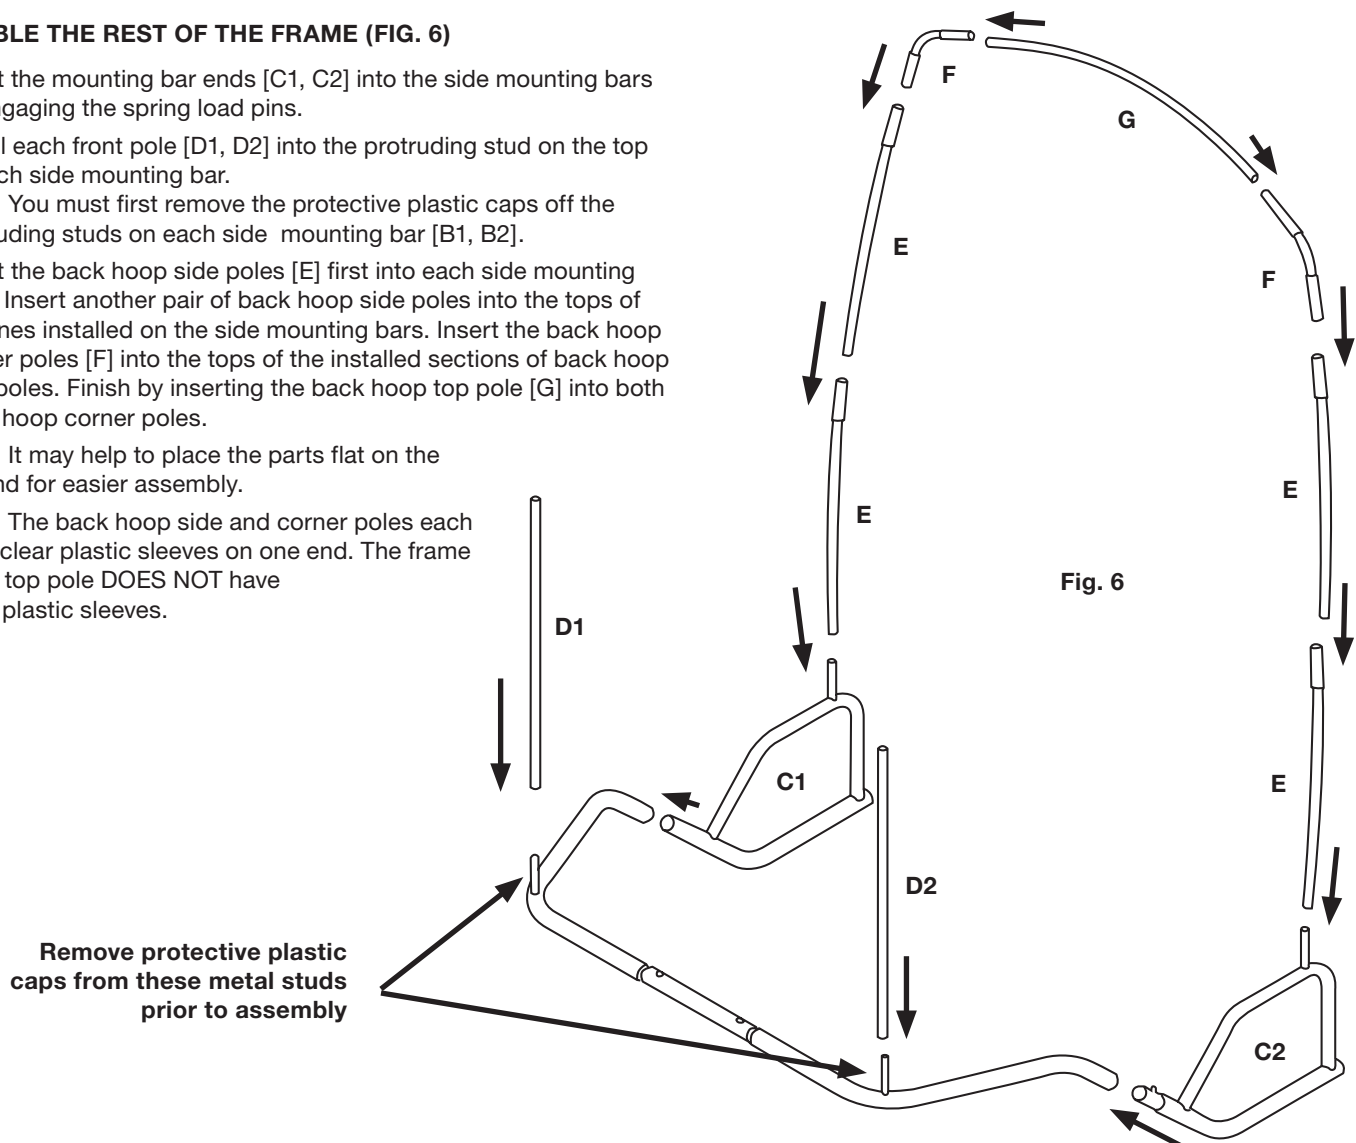

Fig. 6
**ASSEMBLE THE REST OF THE FRAME (FIG. 6)**